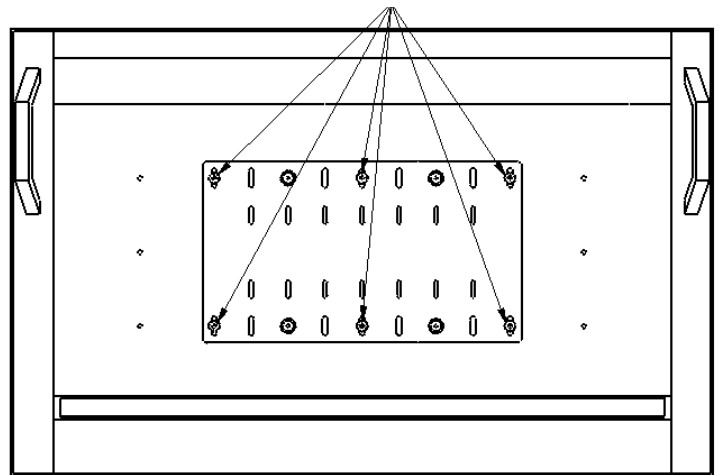

Figure 8. Display with 400mm x 200mm Hole Pattern
2. Attach the MSB-V (10) using the hole-pattern on the back of your display as shown in Figure 8.